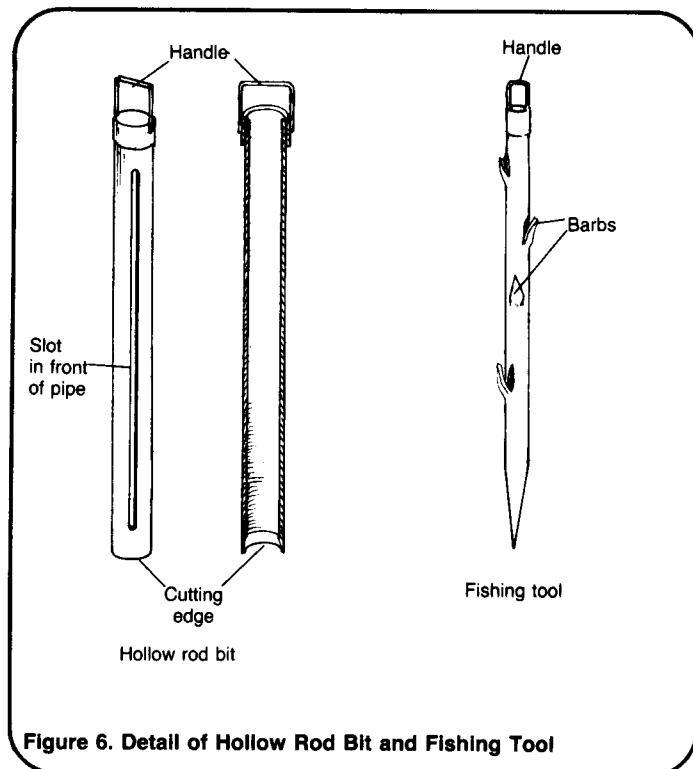

Figure 6. Detail of Hollow Rod Bit and Fishing Tool
9. Remove the bailer from the shaft and detach it from the rope. Attach the percussion bit, lower it into the shaft, and continue drilling. Continue the process of alternately drilling or bailing until you reach the aquifer. If at any time the rope breaks, it can be retrieved from the shaft with a fishing tool as shown in Figure 6. Pull up the bit or bailer, repair or replace the rope, and continue drilling.
10. It may be that before you reach the water table, you encounter a loose, non-caving underground formation. If so, a hollow rod bit, as shown in Figure 6, can be used effectively in place of the percussion bit and bailer. Use longer strokes for the hollow rod bit, about 1 or 2m. When the bit fills or partially fills with soil, remove it from the shaft and empty it. Continue using this bit until you encounter harder formations. Then switch back to the percussion bit and bailer until you encounter the aquifer or another loose, caving formation.